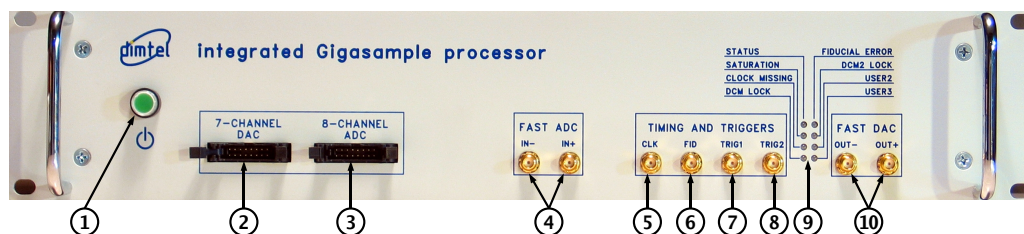

Figure 2: Front panel features
2. Connect RF clock at -3 dBm nominal level (Fig. 2, item 5);
3. Connect single-ended high-speed ADC input signal to Ain+ (Fig. 2, item 4). The FS swing of this signal should be 190 mV peak-to-peak;
4. Connect a $50\ \Omega$ terminator to Ain- (Fig. 2, item 4);
5. Connect high-speed DAC output(s) (Fig. 2, item 10) to the appropriate back-end unit;
9. Push the power button (Fig 2, item 1) to turn on the system;
11. Push the power button (Fig 2, item 1) to turn the system off;
- Connect the 16-pin ribbon cable between the 7-channel **DAC** (Fig. 2, item 2) and the 8-channel **ADC** (Fig. 2, item 3);
- Connect 178.55 MHz clock to the **RF** clock input (Fig. 2, item 5);
- Terminate `Ain-` fast **ADC** input (Fig. 2, item 4);
- Terminate `Aout-` fast **DAC** output (Fig. 2, item 10);
- Make sure fiducial input is not driven (Fig. 2, item 6);